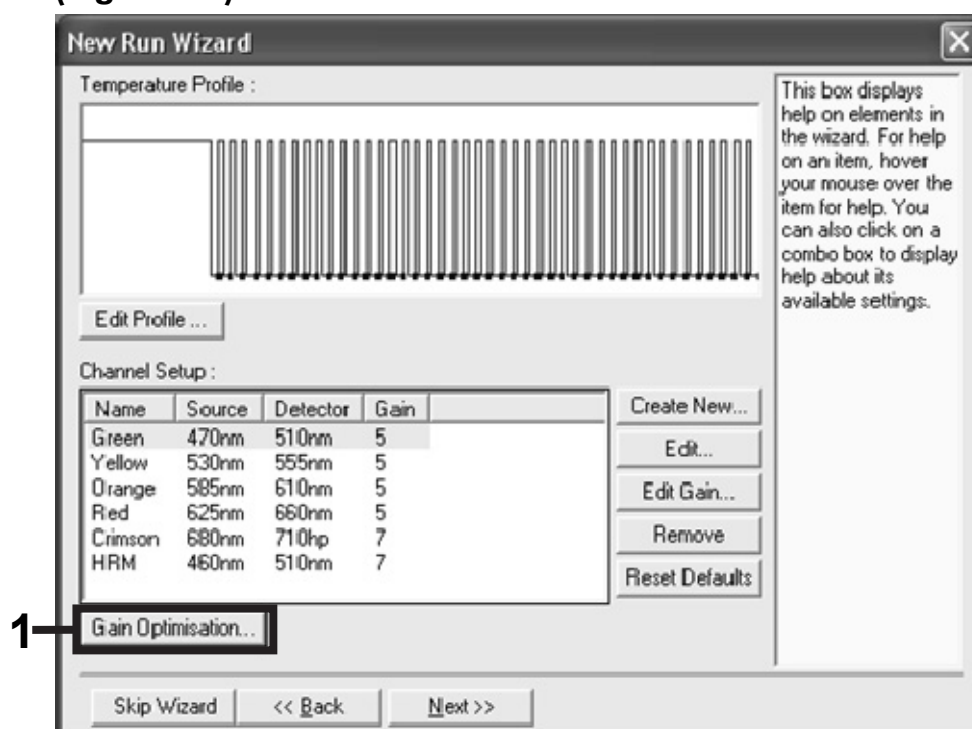

Figure 24. Gain optimization.
13. In the next dialog box, click the “Gain Optimisation” button (Figure 24).